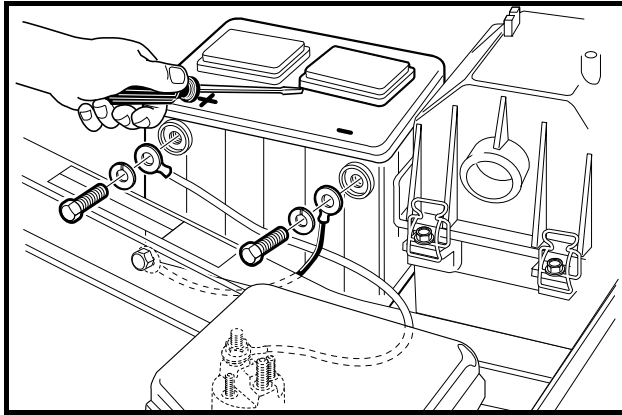

Figure 10-13 Battery
The battery in a Club Car vehicle is a 12-volt, low-maintenance battery that requires infrequent checks (**Figure 10-13**). Electrolyte level should be checked semiannually.
4. Use a flat blade screwdriver, and carefully remove the battery cell caps from the battery (**Figure 10-13**). **See following WARNING.**